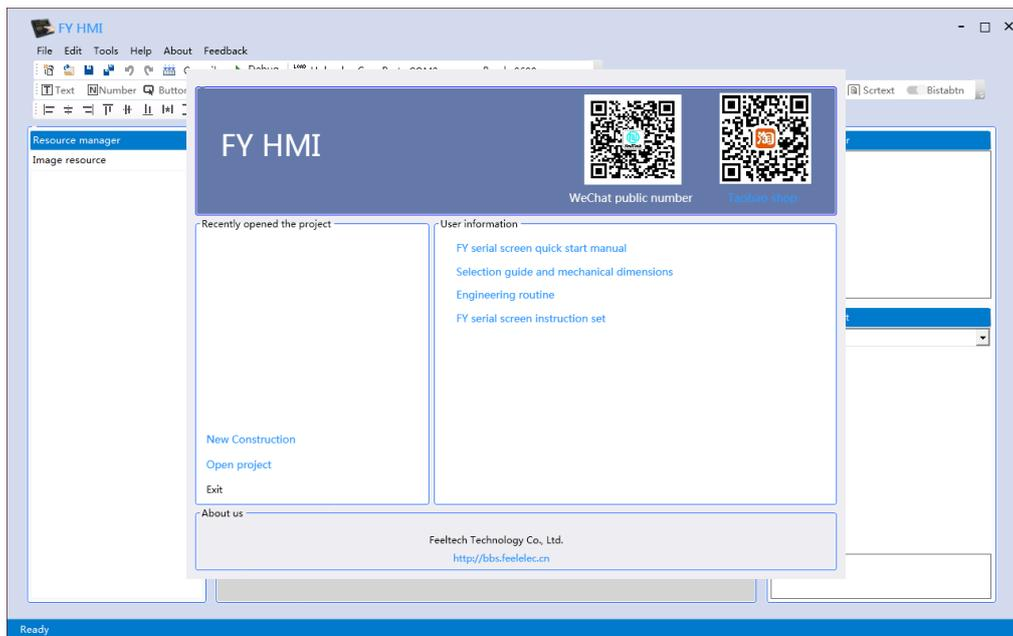

Figure 1-2
3. After the installation is complete, automatically add software shortcuts on the desktop, click to display the software interface, as shown in Figure 1-2: